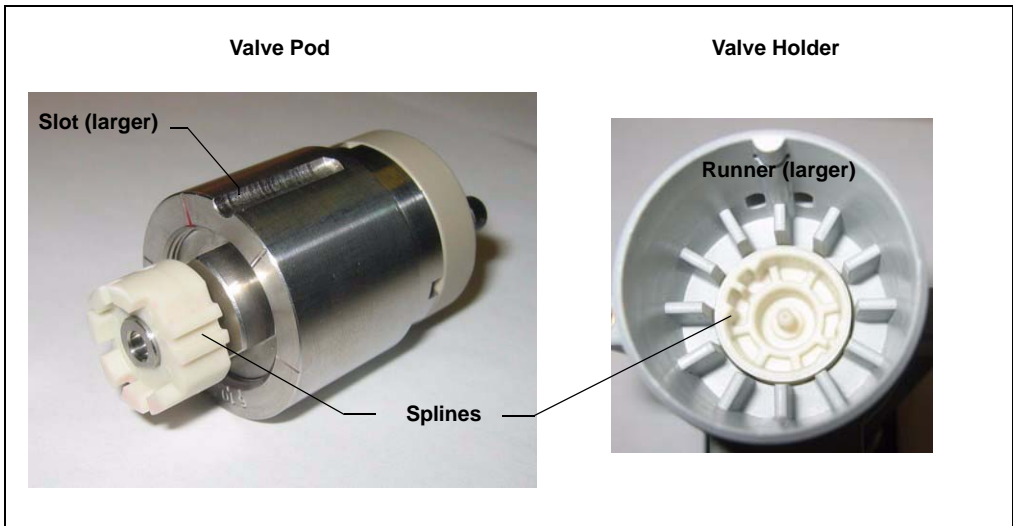

Figure 5-12. Valve Pod and Pod Holder
7. Align the slots in the new pod with the runner in the valve holder on the ICS-2100 (see Figure 5-12). Valve pods are keyed to fit only one way (one slot is narrower than the other). Verify that the slots are aligned with their matching runners.
8. Also verify that the two splines on the pod align with the matching splines inside the valve holder (see Figure 5-12). If necessary, twist the end of the pod to adjust the position of the splines.